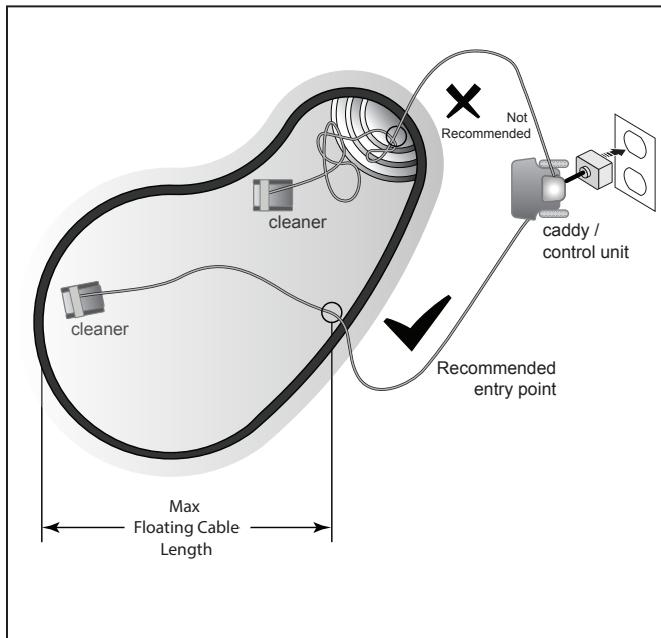

Figure 13. Set Up for Optimal Patterning
**NOTE:** For optimal patterning and reduced tangling, the floating cable should enter the water near the middle of the pool length. Only place enough cable in the water to reach the farthest point in the pool (see Figure 13).